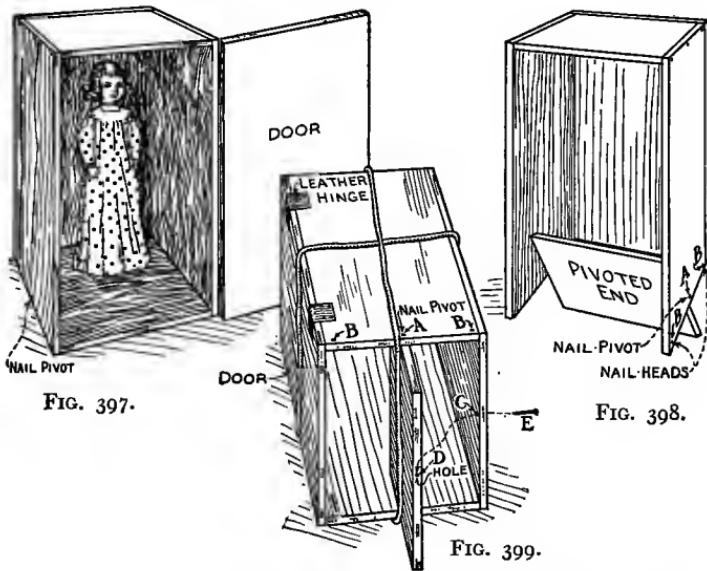

FIG. 396. — The Disappearing-Doll Trick.
The Disappearing-Doll Trick (Fig. 396) is a simplified form of one of the often performed cabinet tricks. It is
**A Packing-Box Table** constructed similar to that shown in Fig. 396. The illustration shows how the legs, fastened to the ends of the box, raise the box about 6 inches above the stage floor.
While passing the twine around the sides and ends, the cabinet should be kept near the center of the table. If a cloth has been spread over the table, the audience can plainly see that there is no possibility for the doll to disappear through a trap-door in the table. When both ends of the cord have been brought around to the top, the cabinet can be rested upon the edge of the table without arousing any suspicion, for all have seen the cord passed around the six sides. This is the time for the assistant to act quickly. He must reach out from his position inside the table (Fig. 396), withdraw the locking pin *E* (Fig. 399), turn the pivoted end of the cabinet, remove the doll, and then close and lock the pivoted end. In the professional trick, the occupant of the cabinet escapes similarly through a trap-door in the stage floor, after the cabinet has been tied up and stood upon the floor.